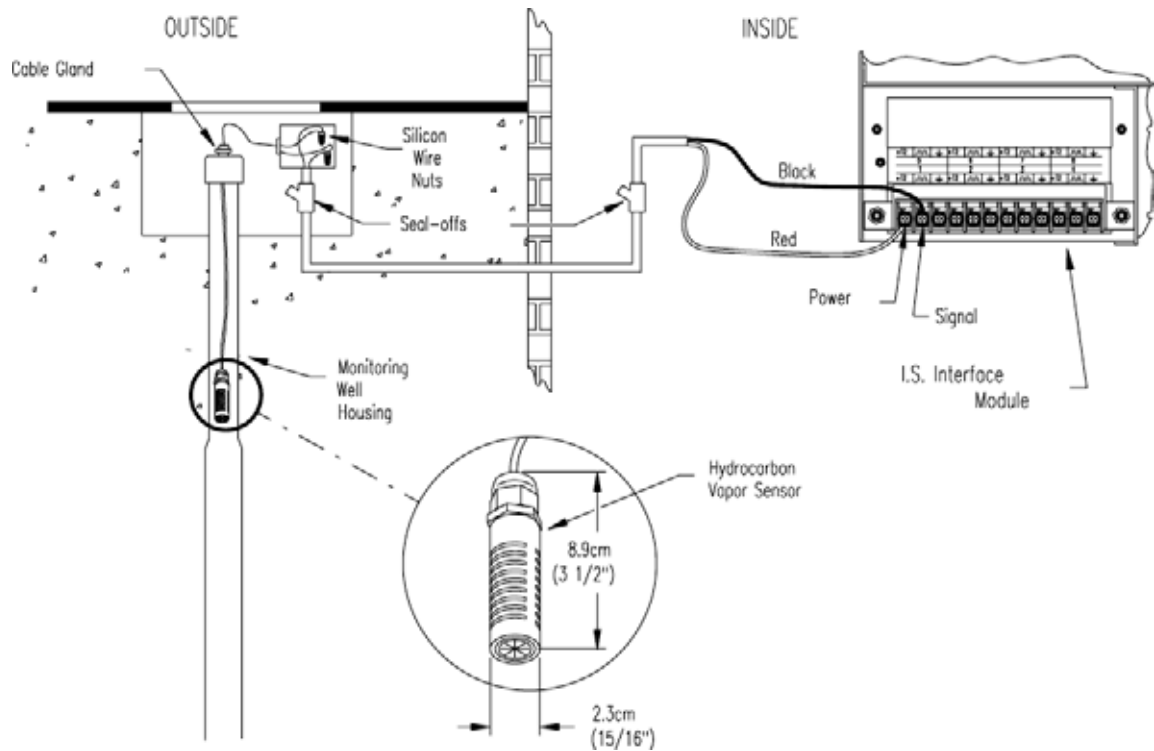

Figure 24: Hydrocarbon Vapor Sensor Installation
- Review Figure 24 on page 70.